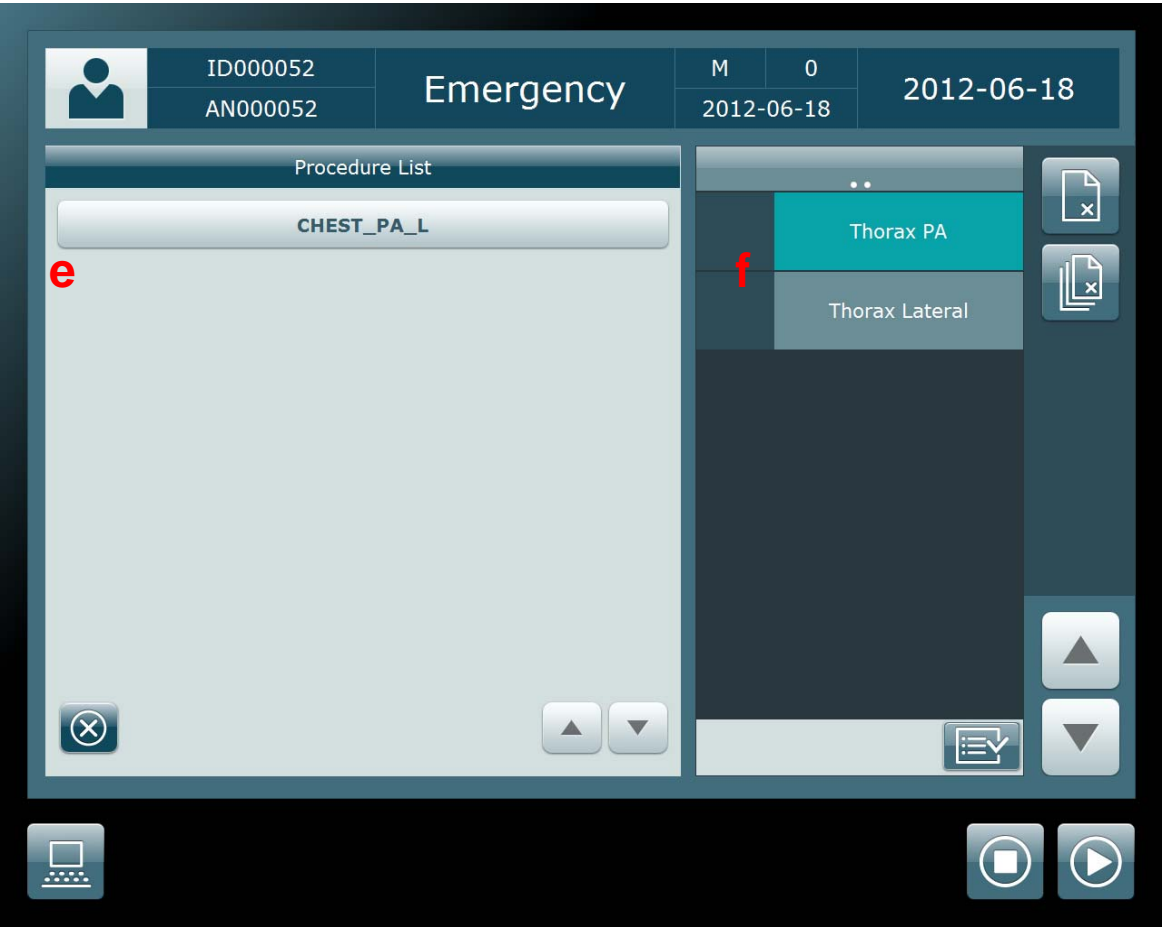

Figure 2.10. Predefined Study List
- If you select Exam with “Add Study” button selected, predefined studies which have selected Exam will be displayed (Figure 2.10)